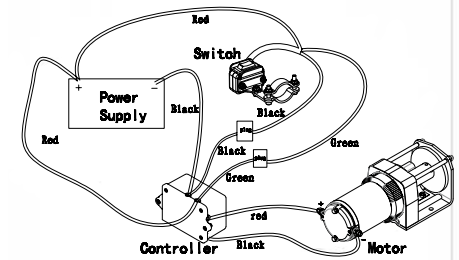

Figure 4
- Route the two couple of lines from the switch to the motor and battery respectively. Connect the red line to the positive terminal (+) and the black (or green) line to the negative terminal (—) of the 12V / 24V battery. Connect the two lines to the terminal on the motor of the electric winch (See Figure 4).